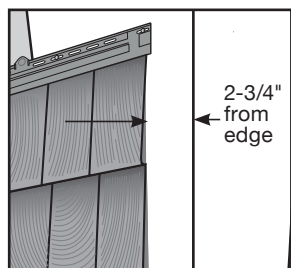

figure 10
1. Remove nail hem from cornerpost as shown in figure 10 and use as your starter. Install fastener through each nail hole. Note: save the corner that was cut for finishing final course.